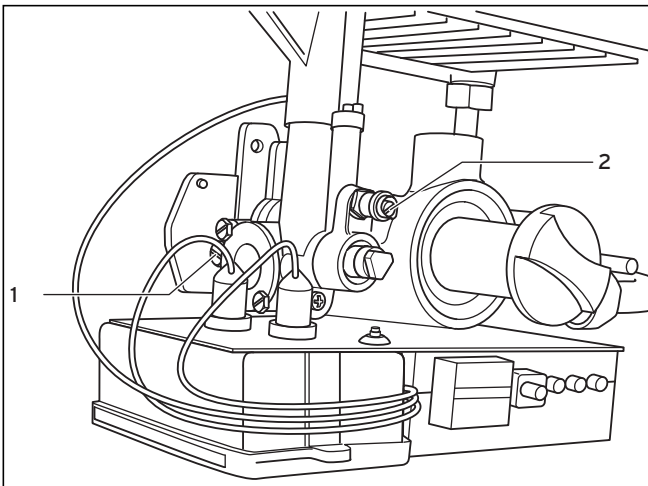

Fig. 6.1 Measuring port for gas connection pressure
- Remove the plug screw of the connection pressure measuring port (1) (see Fig. 6.1 Measuring port for gas connection pressure).